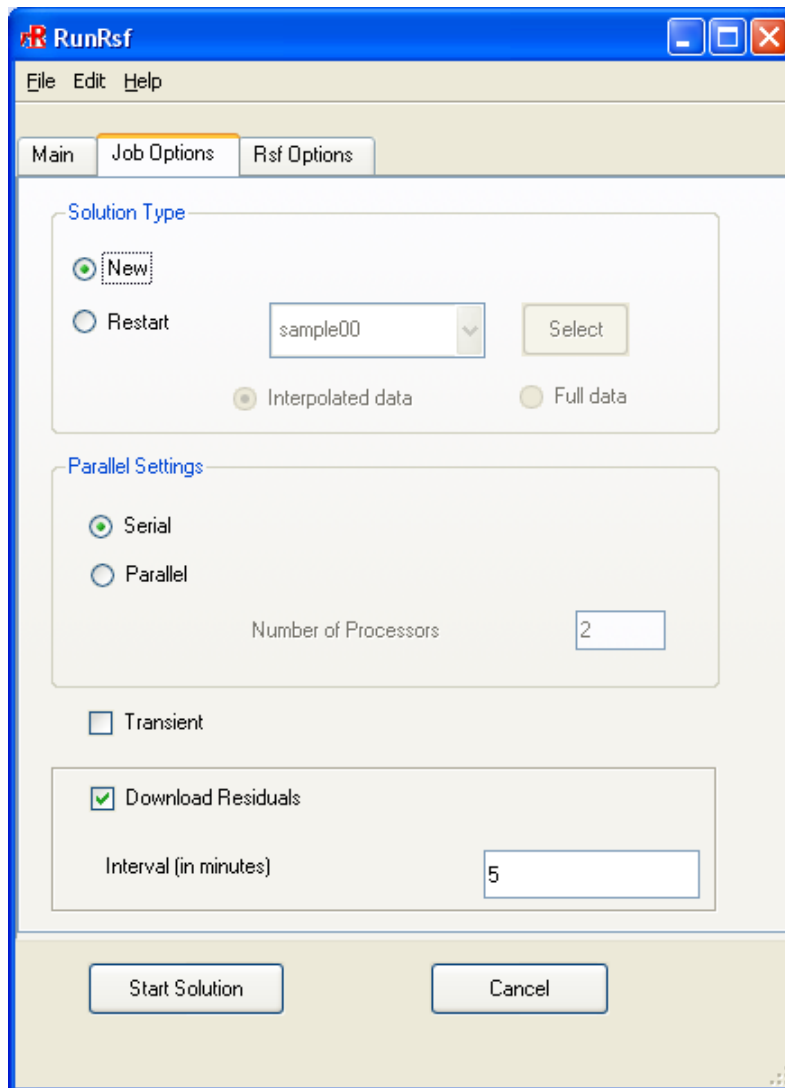

Figure 27.11.24: The Job Options Tab of the RunRsf Panel
- (d) In the **Job Options** tab, you can set solution parameters (Figure 27.11.24).